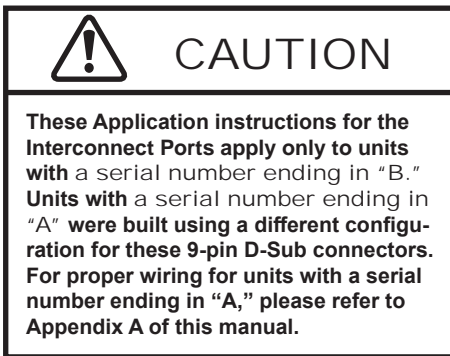

Figure 5.12 – Bi-Level Power Switch Location
4. Locate Bi-Level Power Switch, S1, a black, three-position switch at the rear of the card bay. (See **Figure 5.12**)